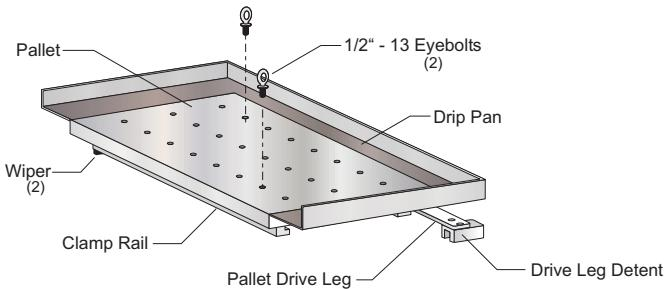
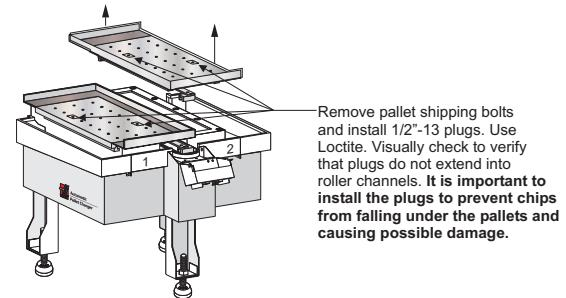

Figure 3.11 Lifting eyebolt locations.
Figure 3.12 Pallet placement.
18. Insert two 1/2"-13 eyebolts into each pallet (see Figure 3.11). Attach straps or chains to the eyebolts, and use a forklift or hoist to lift each of the pallets onto the APC. Ensure that each pallet is placed with its drive leg pawl under the APC operator's panel, and that the APC rollers fit into the grooves on the bottom of the pallets (see Figure 3.12).